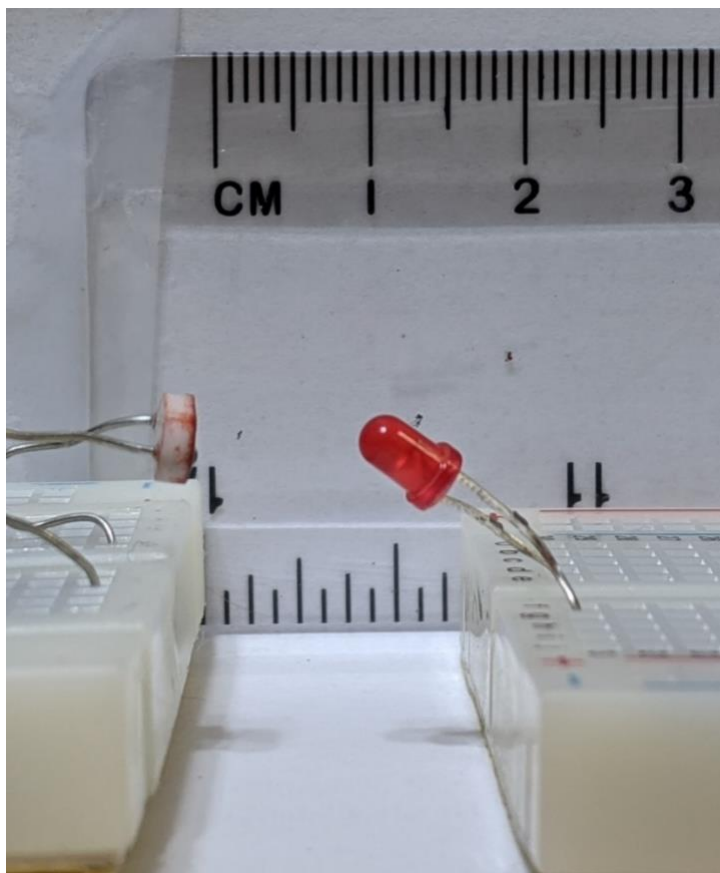

Fig. 4. Image of LED and photoresistor configured to point at each other and maximize the signal. The separation distance in this image is estimated to be 1 cm.
2. Just like in the previous lab when we worked with photodiodes, we want the LED to be focused on the transducer. To do this tilt the LED and photoresistor so that they are pointing at each other and use the voltmeter in Scopy to record the voltage across the photoresistor. A depiction of the LED, photoresistor configuration can be seen below in Figure 4.